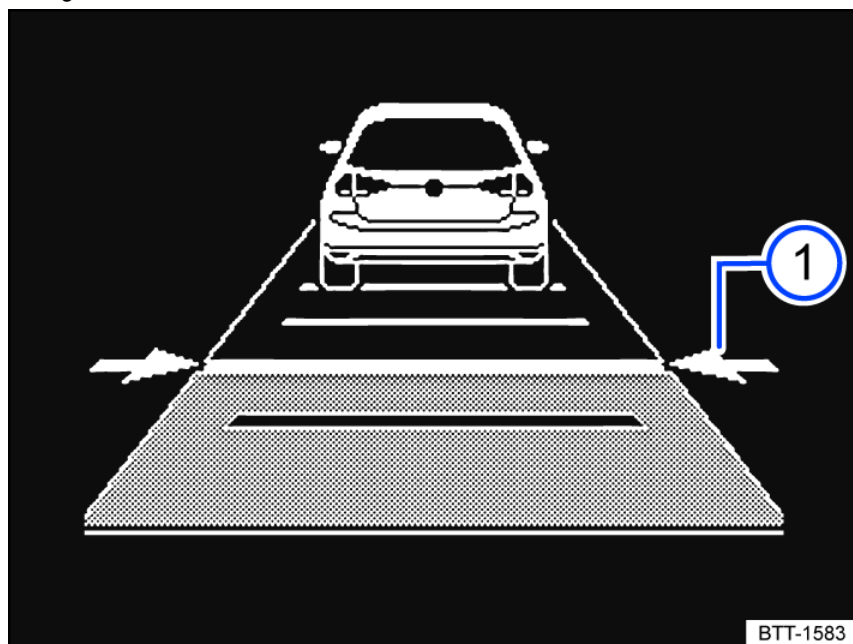

Fig. 130 In the instrument cluster display: set distance ① (general example, ACC is regulating).
The instrument cluster display shows the selected level **fig. 130 ①**. Heed the country-specific regulations for minimum distance.